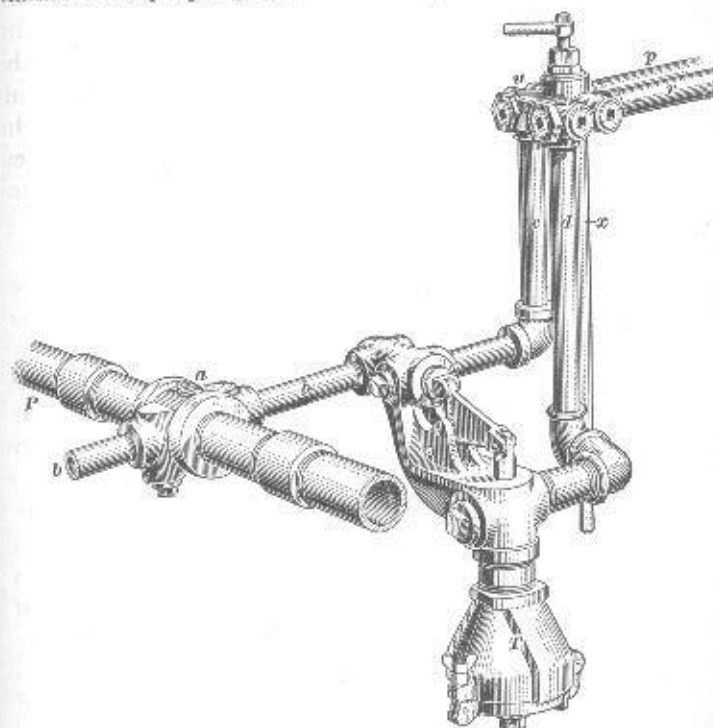
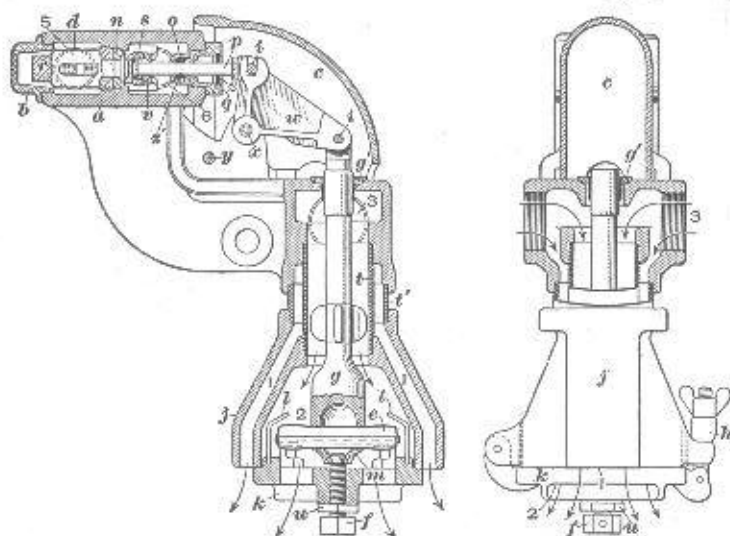

FIG. 2
FIG. 3
3. Piping Arrangement.—Fig. 1 shows the arrangement of piping for a steel passenger coach, while Fig. 2 illustrates the method of piping the vapor regulator valves. In the illustrations, *y, y* are the hose couplings; *v, v*, the end train-line valves; *P* is the train line; *a*, the strainer cross; and *x*, the cut-out-valve drip pipes. On each side of the car, *T* is the vapor regulator and trap; *u, u* are the vapor cut-out valves; and *p, p* and *r* are the radiating pipes. The radiation shown in the illustration consists of one three-pipe coil and one two-pipe coil for each side of the coach. When the end train-line valve *v* nearest the locomotive and the cut-out valves *u* are open, steam from the locomotive boiler passes into the train line *P* at reduced pressure, and will pass from the strainer cross *a* through the branch pipe *b* to the vapor regulator *T* on each side of the car, where the steam will be reduced to vapor at atmospheric pressure and will have a temperature of about 212° F. It will then pass through pipes *c* to the cut-out valves *u*, as shown in view (b), then through these valves to the lowest pipe of the three-pipe radiating coil *p* which leads to the fitting *w* at the end of the car. The steam will then enter the two upper radiating pipes *p* and pass to the opposite end of the car, flowing through the fitting *w'* and the lower return pipe to the left cut-out valve *u*, thence through the right cut-out
4. Vapor Regulator.—Fig. 3 is a sectional view of a No. 425 vapor-regulating valve; such a valve (with shield *c* removed) is shown in Fig. 2 as applied to the piping shown in Fig. 1.
In Fig. 3 the parts shown are: *a*, valve body; *b*, cap; *c*, shield; *d*, strainer; *e*, expansive diaphragm; *f*, setscrew; *g*, operating
and *3* is the entrance to the outlet chamber. The hermetically sealed diaphragm *e* is about half full of a liquid that boils at a temperature of 180° F., and when this is confined and subjected to a temperature of between 200° and 212°, sufficient internal pressure is created to cause the diaphragm to expand about $\frac{3}{8}$ inch in thickness. The setscrew *f* is employed to adjust the position of the diaphragm, so that the expansion must be upwards and so may be utilized to actuate the automatic valve. The opening *5* is the one through which the supply of steam from the train line enters the heating system and, after passing the unseated valve *m*, goes to the cut-out valve *u*, Fig. 2, by way of the opening *6*. After the steam makes a circuit of the radiating pipes it returns to the vapor regulator at the connection *3*.
The duty of the vapor regulator is to receive steam from the train line at whatever pressure and corresponding temperature it may be at that point, and convert the steam into vapor under atmospheric pressure at a temperature of 212° F. before passing it into the radiating pipes inside the car. By reason of the heat being radiated to warm the car, the temperature of the radiating pipes varies from about 212° F. at the point where the steam enters the inside of the car, to 208° F. or 210° F. at the point where it reaches the thermostat to pass off through the outlet of the vapor regulator in the form of condensation, this end of the system being at all times open to the atmosphere. When the temperature is about 212° F. in the diaphragm chamber, the diaphragm *e*, Fig. 3, expands and raises the operating rod *g*, which closes the automatic valve *u* through the bell-crank lever *w* and valve stem *p*; in about half a minute the temperature in the chamber around *e* will have dropped to about 200° F., and the diaphragm *e* will contract enough to allow the automatic valve *s* to unseat and adjust itself to a point where it will continue indefinitely to let just enough steam pass through to the radiating pipes to maintain a constant temperature around the diaphragm *e*.